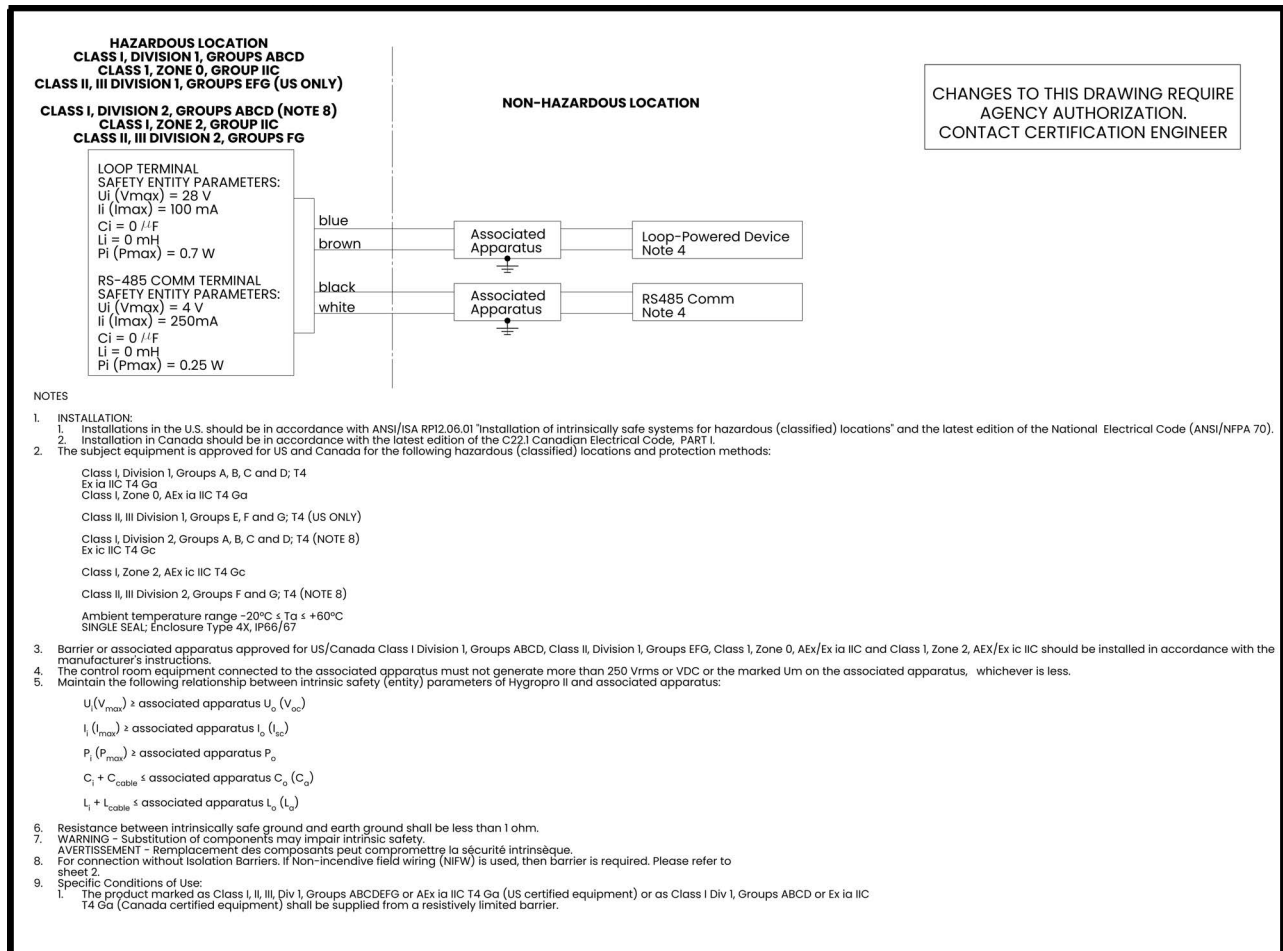
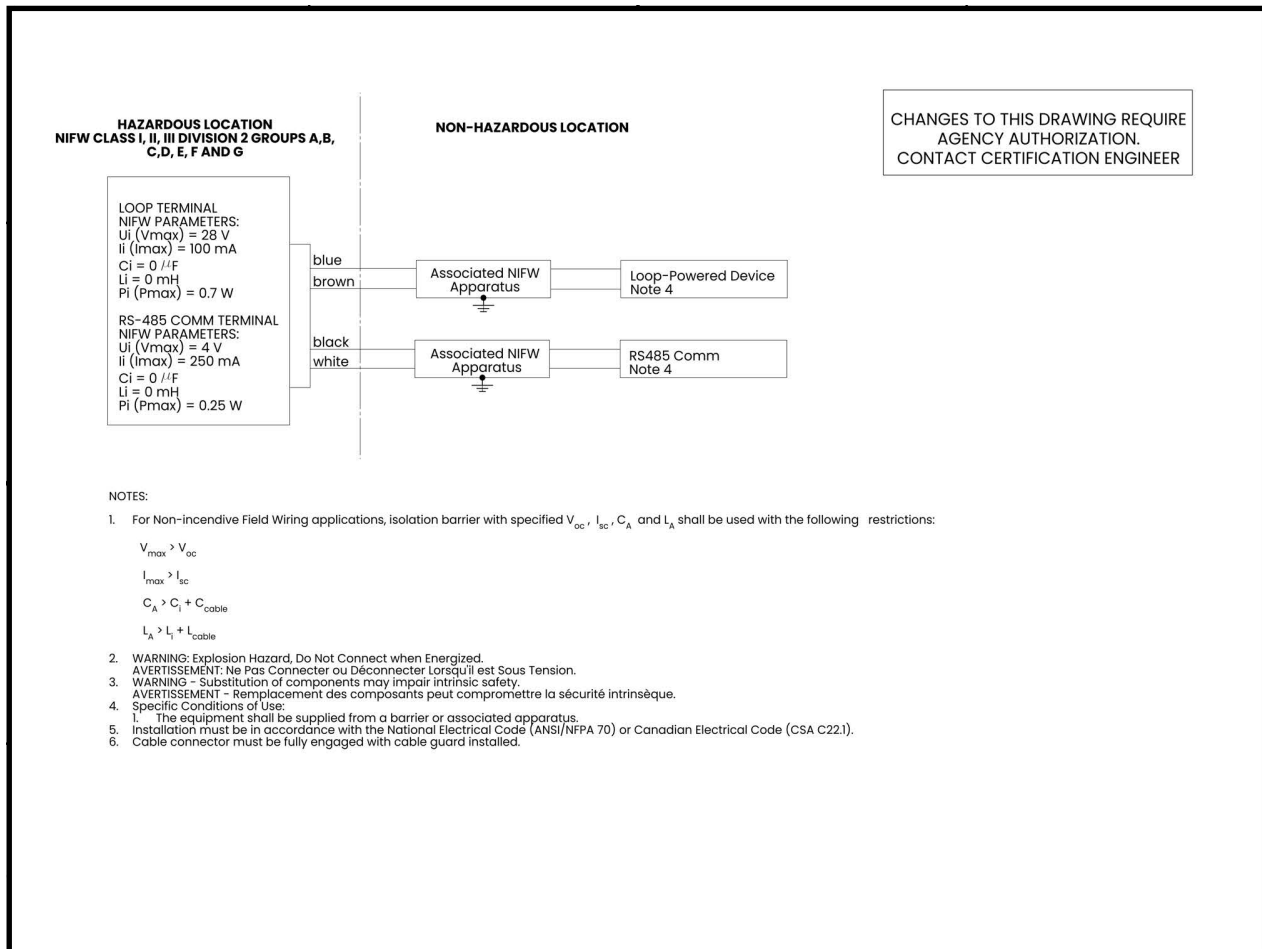

Figure 10: HygroPro^{II} Installation Control Drawing for Division 1 and Division 2 locations (refer to 752-607)
Figure 11: HygroPro^{II} Installation Control Drawing for Non-incendive field wiring in Division 2 locations (refer to 752-607)
- the FM Schematic drawing (see *Figure 10* below)
For wiring the HygroPro^{II} in hazardous (classified areas) connect the flying lead end of the IS cable assembly supplied with the transmitter as shown in the installation control diagrams in *Figure 10* and *Figure 11*, according to one of the following conditions:
- **With appropriate rated Zener Barrier/Galvanic Isolator:** Required for use in Class I, Zone 0 and Class I/II/III Division 1 hazardous areas (*Figure 10*).
- **Non-incendive Field Wiring and Zener Barriers:** For use in Class I/II/III, Division 2 hazardous areas only (*Figure 11*).